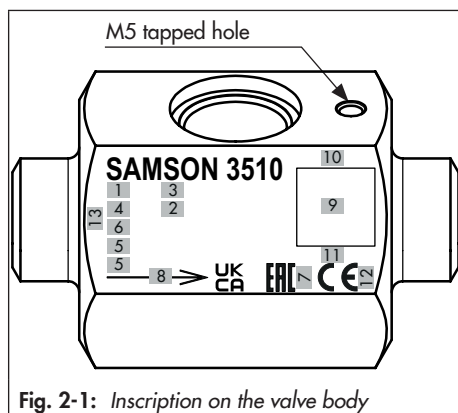

Fig. 2-1: Inscription on the valve body
1) In addition to the labeling on the valve body, the position of the M5 tapped hole on the body's top plane surface also indicates the direction of flow through the valve (see Fig. 2-1). This tapped hole is always located on the outlet side of the valve body when the standard FTO (flow-to-open) flow direction is used.